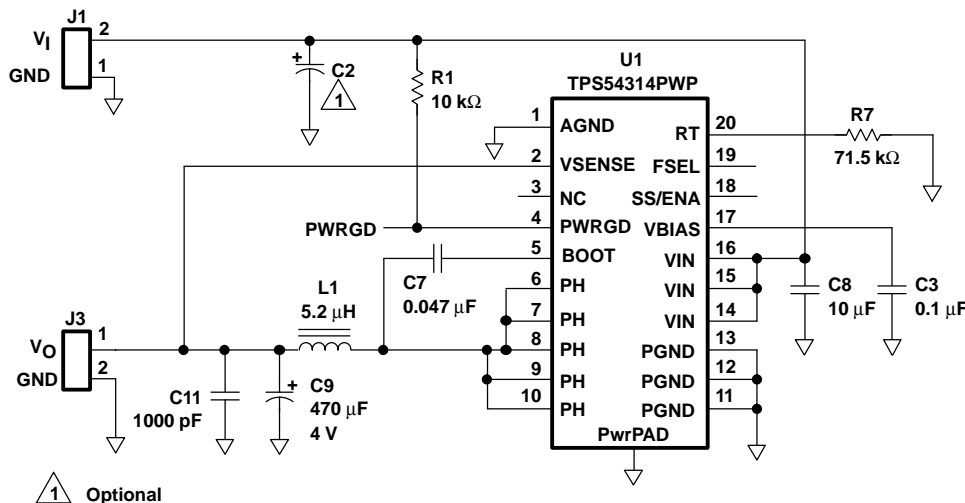

Figure 10. TPS54314 Schematic
(1) Specified by design
(2) Static resistive loads only
(3) Specified by the circuit used in Figure 10.
Figure 10 shows the schematic diagram for a typical TPS54314 application. The TPS54314 (U1) can provide up to 3 A of output current at a nominal output voltage of